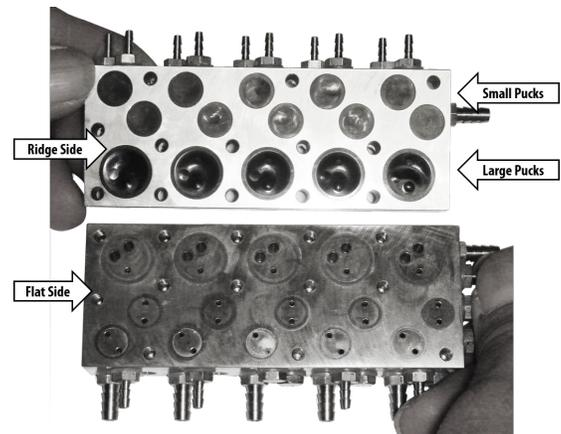

Fig. 4
Step 3 - Remove existing diaphragm or pucks and replace with new. (Fig.4)
Hold one side of the block and then carefully place the other side of the block on top and align. Be careful not to dislodge any of pucks. (Fig. 4)